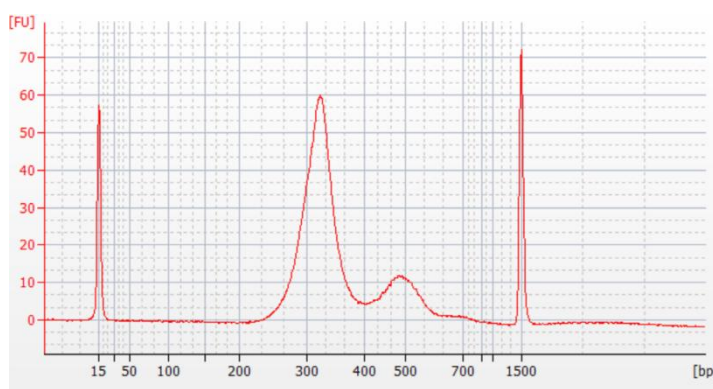

Figure 1. Example of cfDNA pre-hyb library size distribution on Agilent 2100 Bioanalyzer
- 1.8.2 Pre-hyb library fragment size QC (Optional): Assess the quality of the pre-hyb library with a recommended capillary electrophoresis analyzer and associated kit. The peak size of the library fragment should fall within the range of 300 to 400 bp, as illustrated in Figure 1.